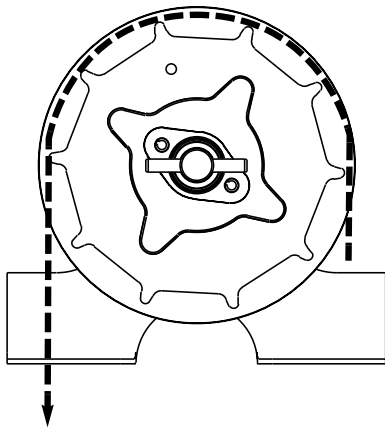

FIG. 1
1. Route the hand chain through the chain guide, around the pocket wheel and back through the chain guide. FIG.1.
- HOIST MODELS: Attach release cord to clutch shaft release lever and route as shown in FIG. 1.